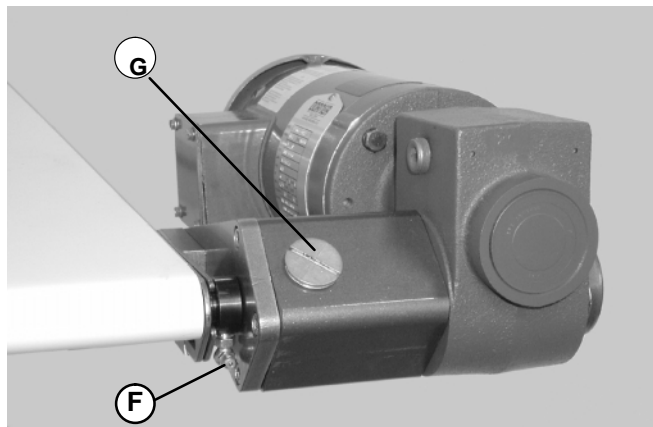

Figure 12
1. Locate the drive shaft grease fitting (F of Figure 12). Lubricate the pulley bearings through the grease fitting.